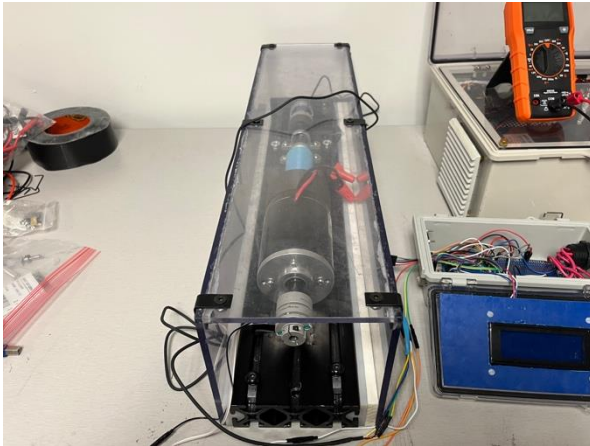

Figure 1: Dynamometer Setup
1. Mount the generator securely and connect its shaft to the dynamometer motor through the coupler (see Figure 1).